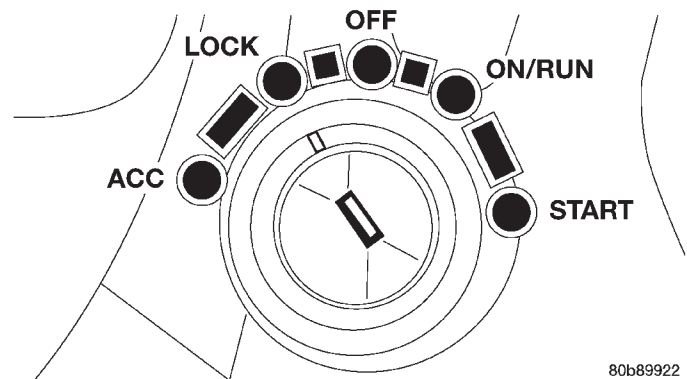
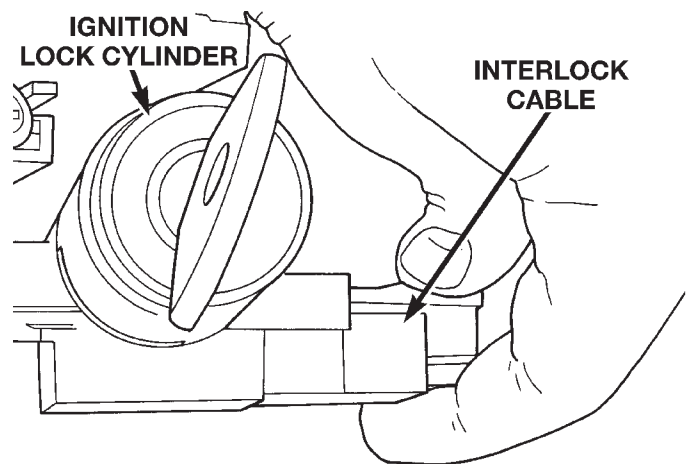

Fig. 26 Ignition Key/Switch Positions
Fig. 27 Interlock Cable and Connector
(15) Place the ignition key in the ON/RUN position (Fig. 26). Grasp the interlock cable clip and connector. Remove the cable from the interlock housing (Fig. 27).
(16) Unclip the cable retaining clip located along the cable housing.
(17) Remove interlock cable from underside of instrument panel.
- (1) Route interlock cable into lower dash panel.
- (2) Turn the ignition switch to the ON/RUN position (Fig. 26).